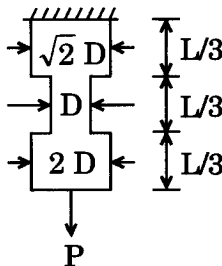

Figure 2
3. Show that the strain energy stored in the bar, as shown in Figure 2 is $\frac{7}{6} \times \frac{P^2 L}{\pi E D^2}$.